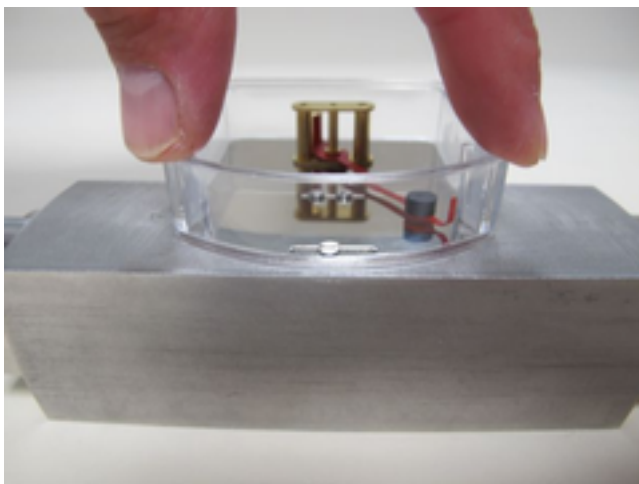

Fig. 74: Display housing Install
- 16.** Place the plastic housing on the display base plate and press until it snaps into place. (*Fig. 74*)